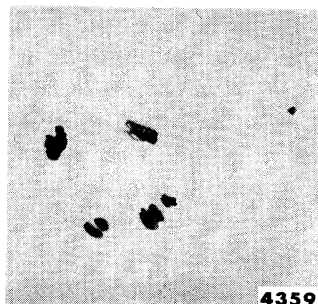

Fig. 19—Chipped
broken by a sharp blow, and small particles of paint have flaked off (fig. 19). Frequently, stone bruises result in chipping (fig. 20). *Use repair procedure (2).*